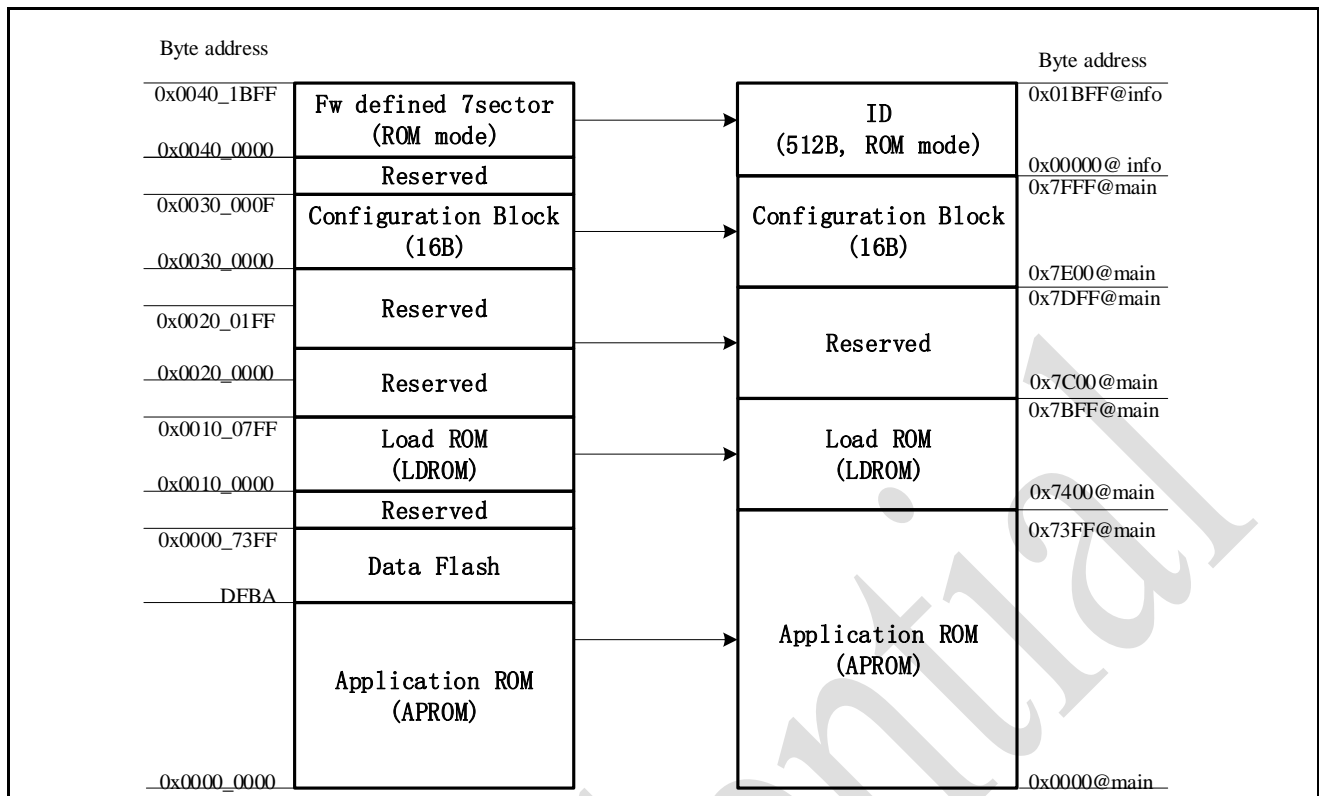

Figure 4-17 Flash Memory Map
In the PAN2025 series, the flash memory map is different from system memory map. The system memory map is used for CPU to fetch code or data from FMC memory. The flash memory map is used for ISP function to read, program or erase FMC memory. Figure 4-17 shows the flash memory map.
1. Perform ISP “Run Memory Checksum” operation: user has to set the memory starting address (FMC_ISPADDR) and size (FMC_ISPDAT) to calculate. Both address and size have to be 4 bytes alignment, the size should be must be multiples of 4 bytes and the starting address is absolute address, in Figure 4-17 Flash Memory Map, it refers to byte address from flash perspect.
3. Read FMC_ISPDAT to get checksum: The checksum is read from FMC_ISPDAT. If the checksum is 0x0000_0000, it must be one of two conditions (1) Checksum calculation is in-progress, (2) Address and size is over device limitation.